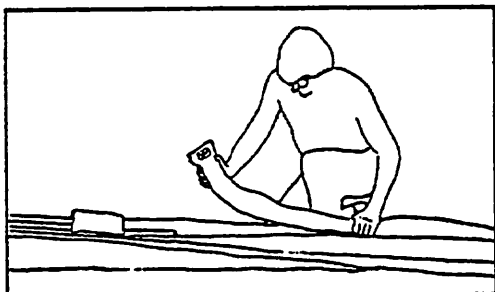

Figure 91
13) Put the batten bag on the battens. Stow the battens between the rear leading edges. Stow the nosecone under the forward velcro sail tie. (Figure 91, 92) Zip up the bag.